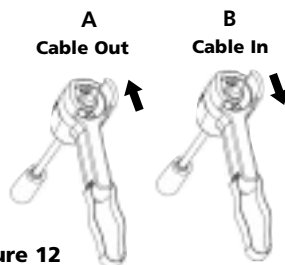
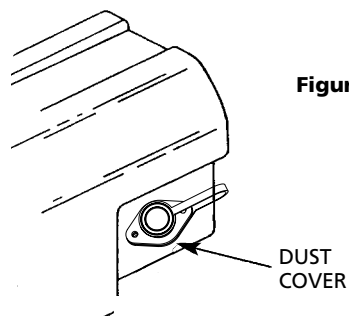
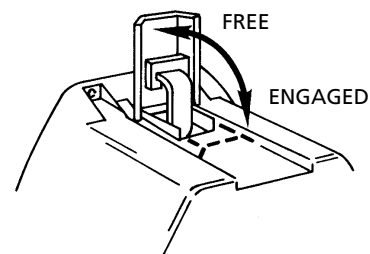

Figure 12
Figure 13
Figure 14
Lift the freespool clutch lever to the "Free" position. Pull several feet of wire rope off the drum. Return the clutch lever back to the "Engaged" position. Plug in the remote pendant control. Press the switch trigger to the "Rope-Out" position momentarily to check wire rope drum rotation and direction. If the drum rotates in the wrong direction, recheck your wiring. The Handheld pendant switch activates a solenoid that activates power to the winch motor. One solenoid is for "Rope Out" motor direction and the other is for the "Rope In" motor direction (Fig. 12).
The handheld pendant switch activates a solenoid that activates power to the winch motor. To connect the pendant control, remove the cover on the plug receptacle (Figure 13) and insert the plug end of remote switch. The plug on the pendant control cord is keyed and will fit into the socket only one way. The switch trigger returns to the "Off" position when released. To change direction, move the toggle in the other direction. (Fig.12)
Lift the clutch lever to the "Free" position as shown in Figure 13. If there is a load on the wire rope, the clutch lever may not turn easily. DO NOT FORCE THE CLUTCH LEVER. Release tension on the wire rope by jogging out some of the wire rope. Releasing the clutch and pull out the wire rope and secure to anchor or load. Check that there are at least five (5) turns of wire rope left on the drum. Re-engage the drum by returning the clutch lever to the "Engaged" position (see Figure 14).